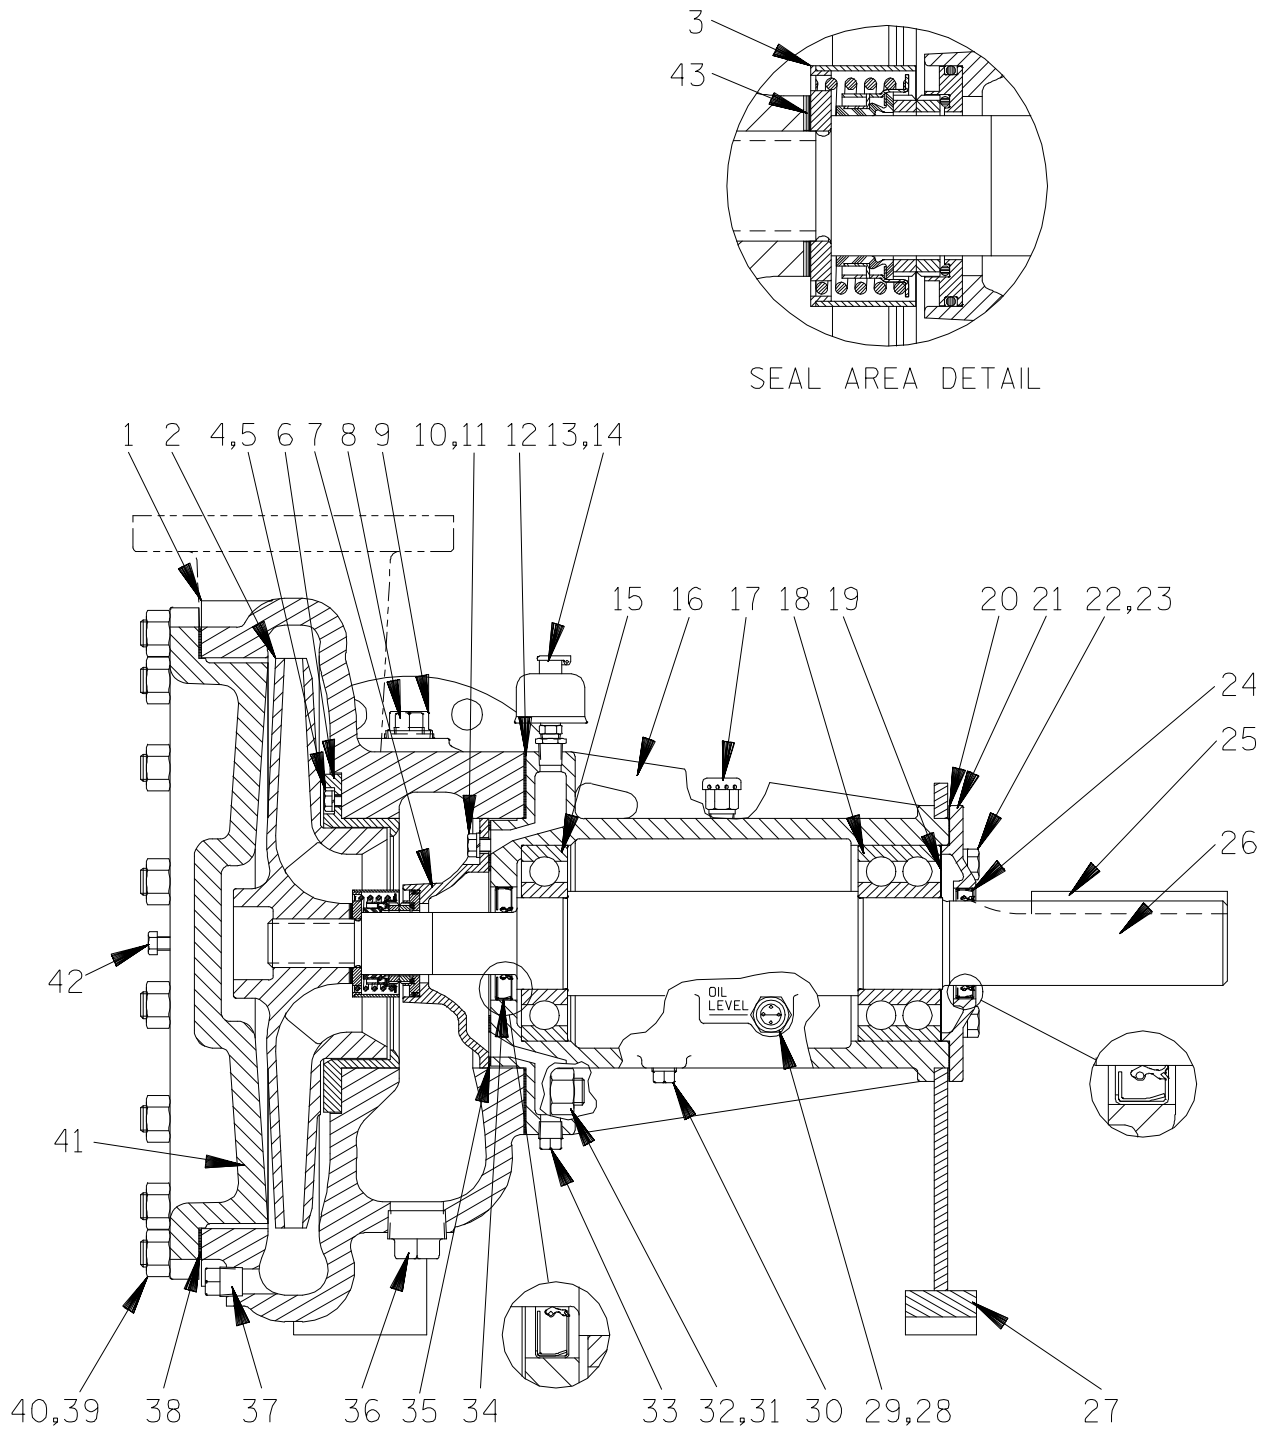

Figure 1. Pump Model 54J20-B
This pump requires little service due to its rugged, minimum-maintenance design. However, if it becomes necessary to inspect or replace the wearing parts, follow these instructions which are keyed to the sectional view (see Figure 1) and the accompanying parts list.
(Figures 1 and 4)
Position the inboard oil seal (34) in the pedestal bore with the lip positioned as shown in Figure 1. Press the oil seal into the bore until the face is **just flush** with the machined surface on the pedestal.
Lubricate the shaft in the area of the oil seal (24) and press the oil seal into the bearing cap with the lip positioned as shown in Figure 1. Use caution not to roll or cut the lip of the oil seal on the shaft keyway.